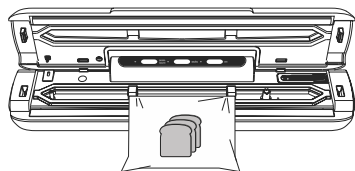
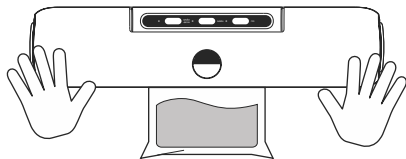

Fig. 1
Fig. 2
2. Open the appliance by pressing the top cover latches (6).
3. Place the edge of the bag to be made on the thermal tape surface (8) so that the bag is retained by the holders (9) (Fig. 1). Carefully close the top cover so that both side latches engage (Fig. 2).